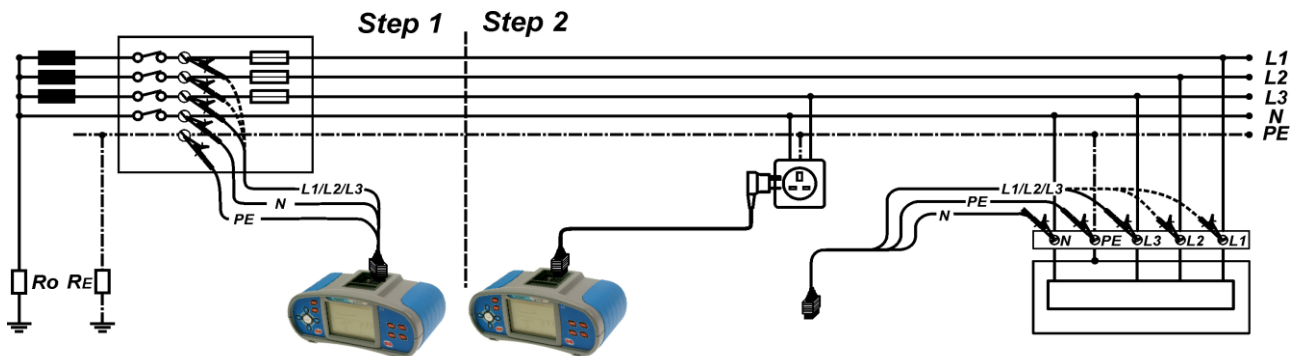

Figure 5.42: Line-Neutral or Line-Line voltage drop measurement – connection of plug cable and 3-wire test lead
- **Connect** the test leads to the origin of electrical installation (see figure 5.42).